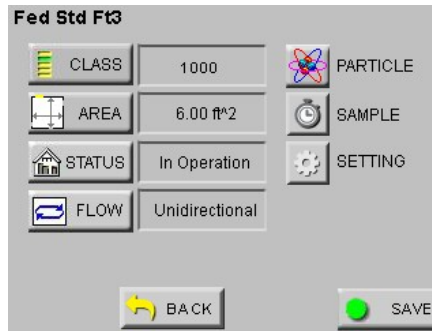

Figure 5-79 Report Setup Screen - No Locations
- If REPORT is not active or the number of locations do not meet the minimum needed in setup, the LOC and SAVE buttons are not displayed. See Figure 5-79.